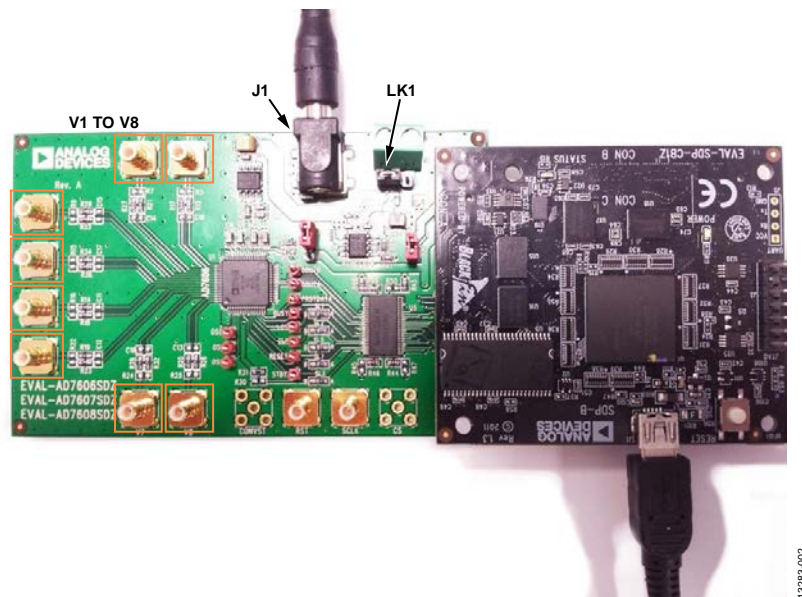

Figure 2. Evaluation Board (Left) Connected to the SDP Board (Right)
3. Connect the EVAL-SDP-CB1Z SDP board to the evaluation board as shown in Figure 2. Screw the two boards together using the enclosed nylon screw/nut kit to ensure that the boards connect firmly together.